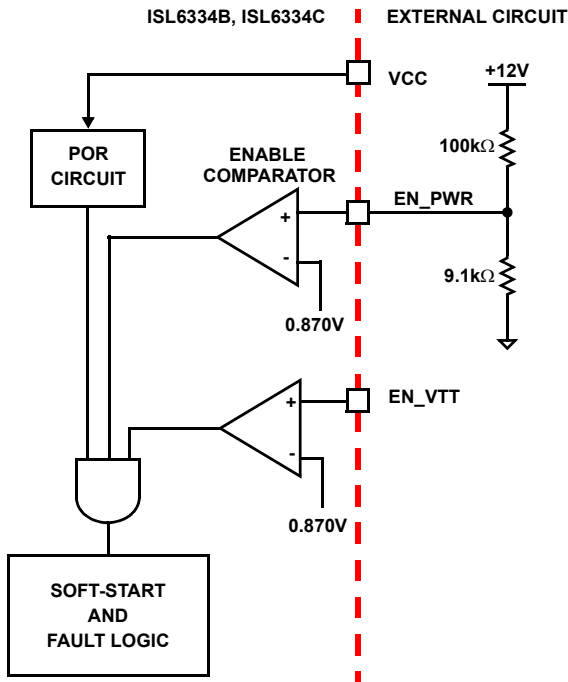

FIGURE 8. POWER SEQUENCING USING THRESHOLD-SENSITIVE ENABLE (EN) FUNCTION
2. The ISL6334B, ISL6334C features an enable input (EN_PWR) for power sequencing between the controller bias voltage and another voltage rail. The enable comparator holds the ISL6334B, ISL6334C in shutdown until the voltage at EN_PWR rises above 0.870V. The enable comparator has about 130mV of hysteresis to prevent bounce. It is important that the driver reach their POR level before the ISL6334B, ISL6334C becomes enabled. The schematic in Figure 8 demonstrates sequencing the ISL6334B, ISL6334C with the ISL66xx family of Intersil MOSFET drivers, which require 12V bias.